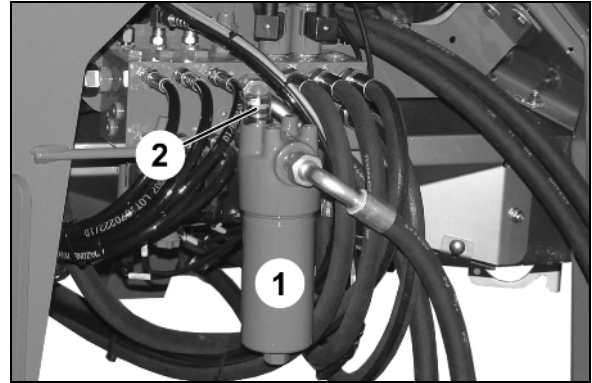

Fig. 27
5. Steerable brake rollers (Fig. 27), front
- o Install and secure with clip pin (Fig. 27/1),